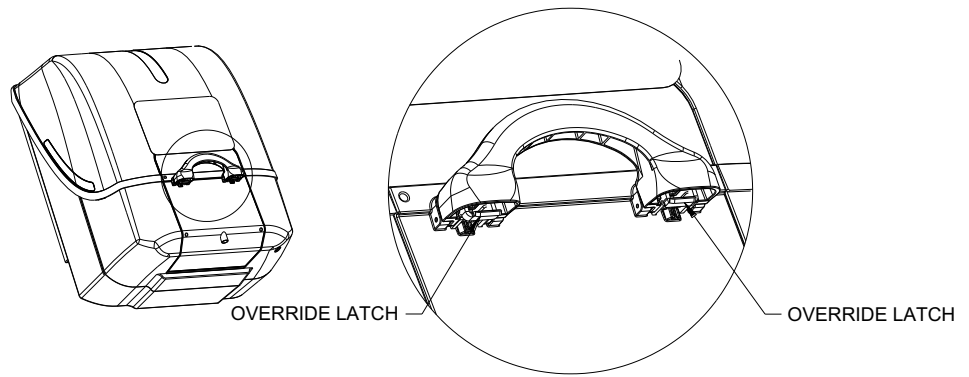

Figure 15
- 2) To inspect Nozzle Assembly, open Tray Assembly utilizing Supervisory Override Latch. Override Latches are located on underside of handle (Ref Figure 15). Both latches must be depressed to allow tray to open. **Note:** The only way to open Tray Assembly without breaking easy Break Security Tag and activating Fluid Cartridge is to use the override latch.